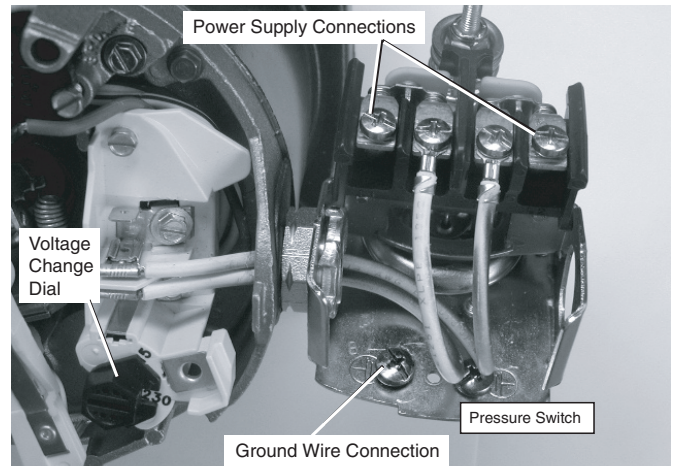

Figure 14: Voltage set to 230 volts, Dial Type
3. Attach the incoming power leads to the two outer screws on the pressure switch as shown in Figure 14.
4. Attach the ground wire to the grounding connections as shown in Figure 14.
- Step 1. Connect the ground wire first as shown in Figure 14. The ground wire must be a solid copper wire at least as large as the power supply wires.
- Step 4. Connect the power supply wires to the pressure switch as shown in Figure 14.